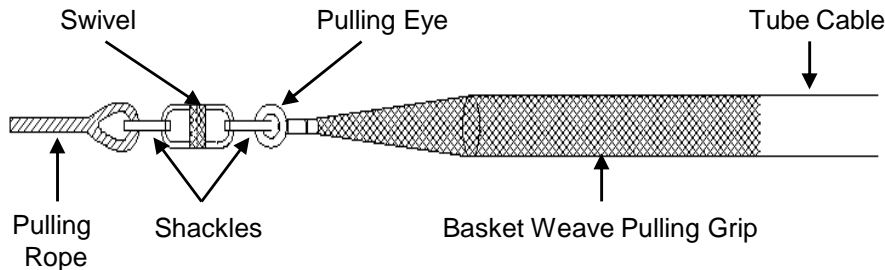

Figure 17
16.2.1 The pulling end of the tube cable must be properly prepared to endure the pulling tensions encountered during installation. The typical method for attaching a pulling rope to a tube cable end is with standard basket weave style pulling grip. **See Fig. 17.**